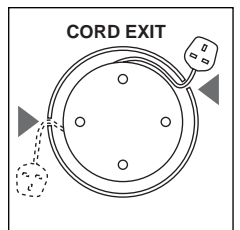

Fig.4
- Release cord from storage base and adjust length by winding around the base to give the correct cord length to reach the plug socket to be used (fig. 4).